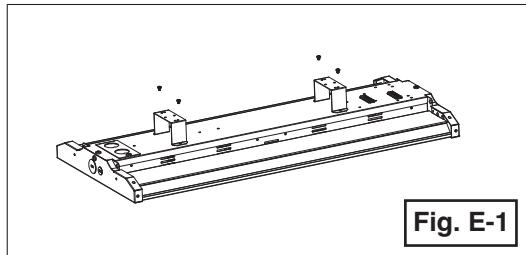

Fig. E-1
1. Install the mounting brackets to the fixture by using the 4 screws. (**Figure E-1**)